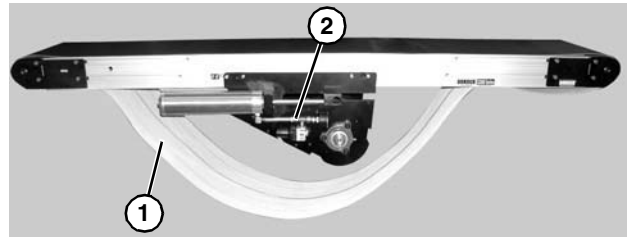

Figure 28
11. Remove belt (**Figure 28, item 1**) from center drive module (**Figure 28, item 1**) and conveyor.